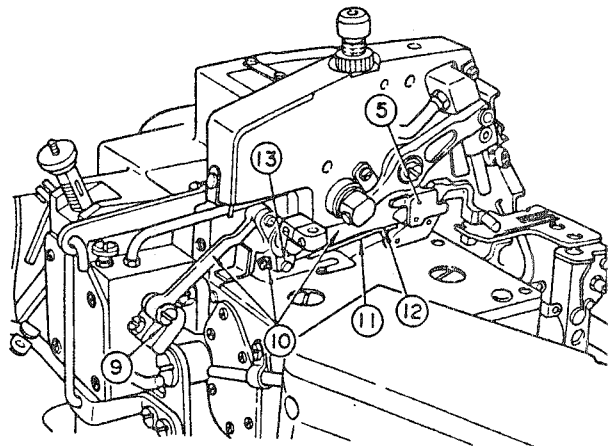

Fig. 1-2
- ① Attach a new rubber cushion ⑫ (Fig. 1-2) to the variable top feed bar.
- ② Attach spring ⑪ (Fig. 1-2) to the variable top feed bar. (Use a washer only for the screw located close to the rubber cushion.)
- ③ Install variable top feed bar (asm.) ⑩ (Fig. 1-2) in its original position. (Ensure that it entirely touches the frame surface and that the oil felt is properly set.)
- ⑤ Attach holder ⑤ (Fig. 1-2). (Ensure that the variable top feed bar moves smoothly.)
- ⑥ Attach hinge screw ⑨ (Fig. 1-2) to the top feed link (B).